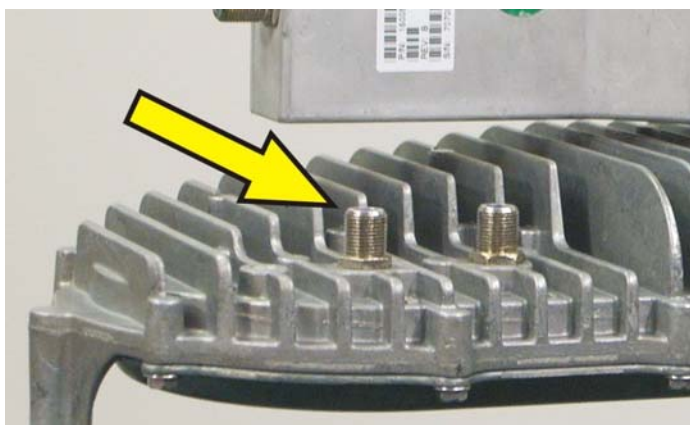

Figure 28: Transmit connector
2. Connect the Tx cable (marked with blue electrical tape) to the transmitter connector marked *IFL*, shown in Figure 28.